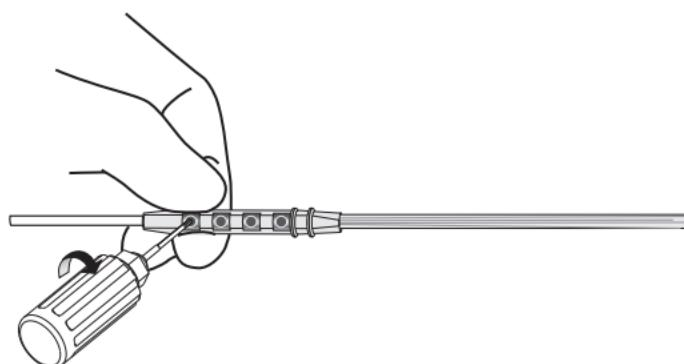

Figure 12. Tighten the setscrews holding the extension firmly on the sides of each setscrew connector block.
4. Use the torque wrench to tighten each setscrew (turning clockwise) to complete the electrical circuit. Hold the extension firmly on the sides of each setscrew connector block while tightening the setscrew. Tighten until the torque wrench clicks at least once (Figure 12).